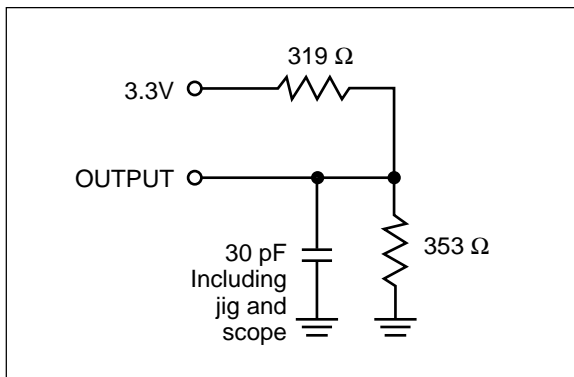

Figure 1a.
Output Load	See Figures 1a and 1b
1. Test conditions assume signal transition times of 3 ns or less, timing reference levels of 1.5V, input pulse levels of 0 to 3.0V and output loading specified in Figure 1a.